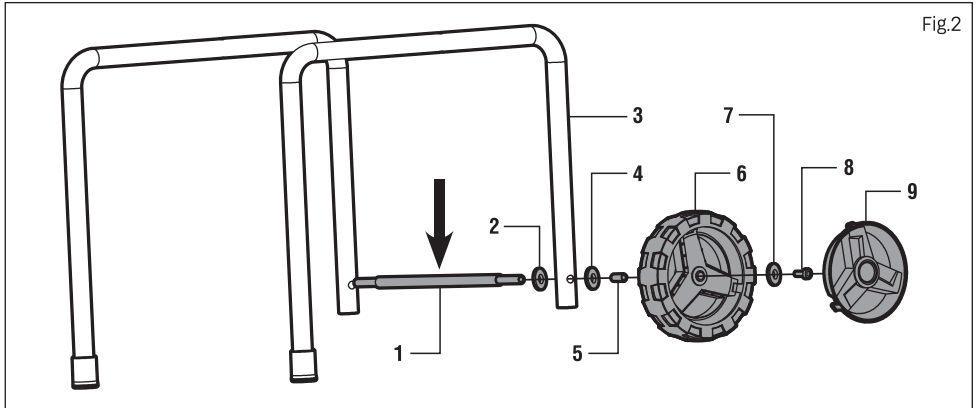

Fig.2
- Place one 9mm washer (Fig. 2-2) onto the end of wheel axle and slide the axle through the hole in the leg bracket (Fig. 2-3) as shown in Fig. 2.
- Secure the wheel onto the axle using one 6mm washer (Fig. 2-7) and one hex nut (Fig. 2-8). The included hex wrench can be used to tighten the hardware. To stop the axle from turning while tightening the hardware, fit a screwdriver (not included) into the hole in the middle of the axle (Fig. 2 - Arrow).